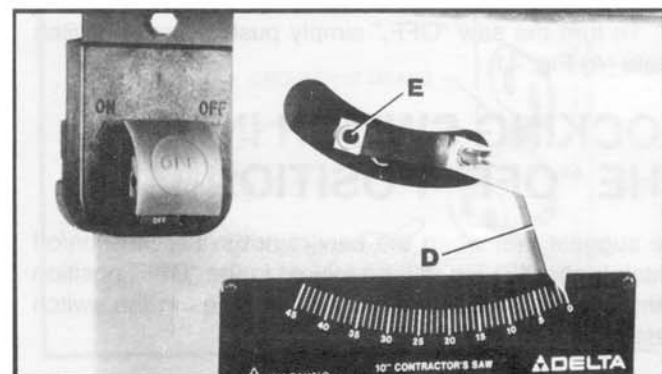

Fig. 46
6. Adjust the pointer (D) Fig. 46, to point to the zero degree mark on the scale by loosening screw (E), adjusting pointer (D) and tightening screw (E).